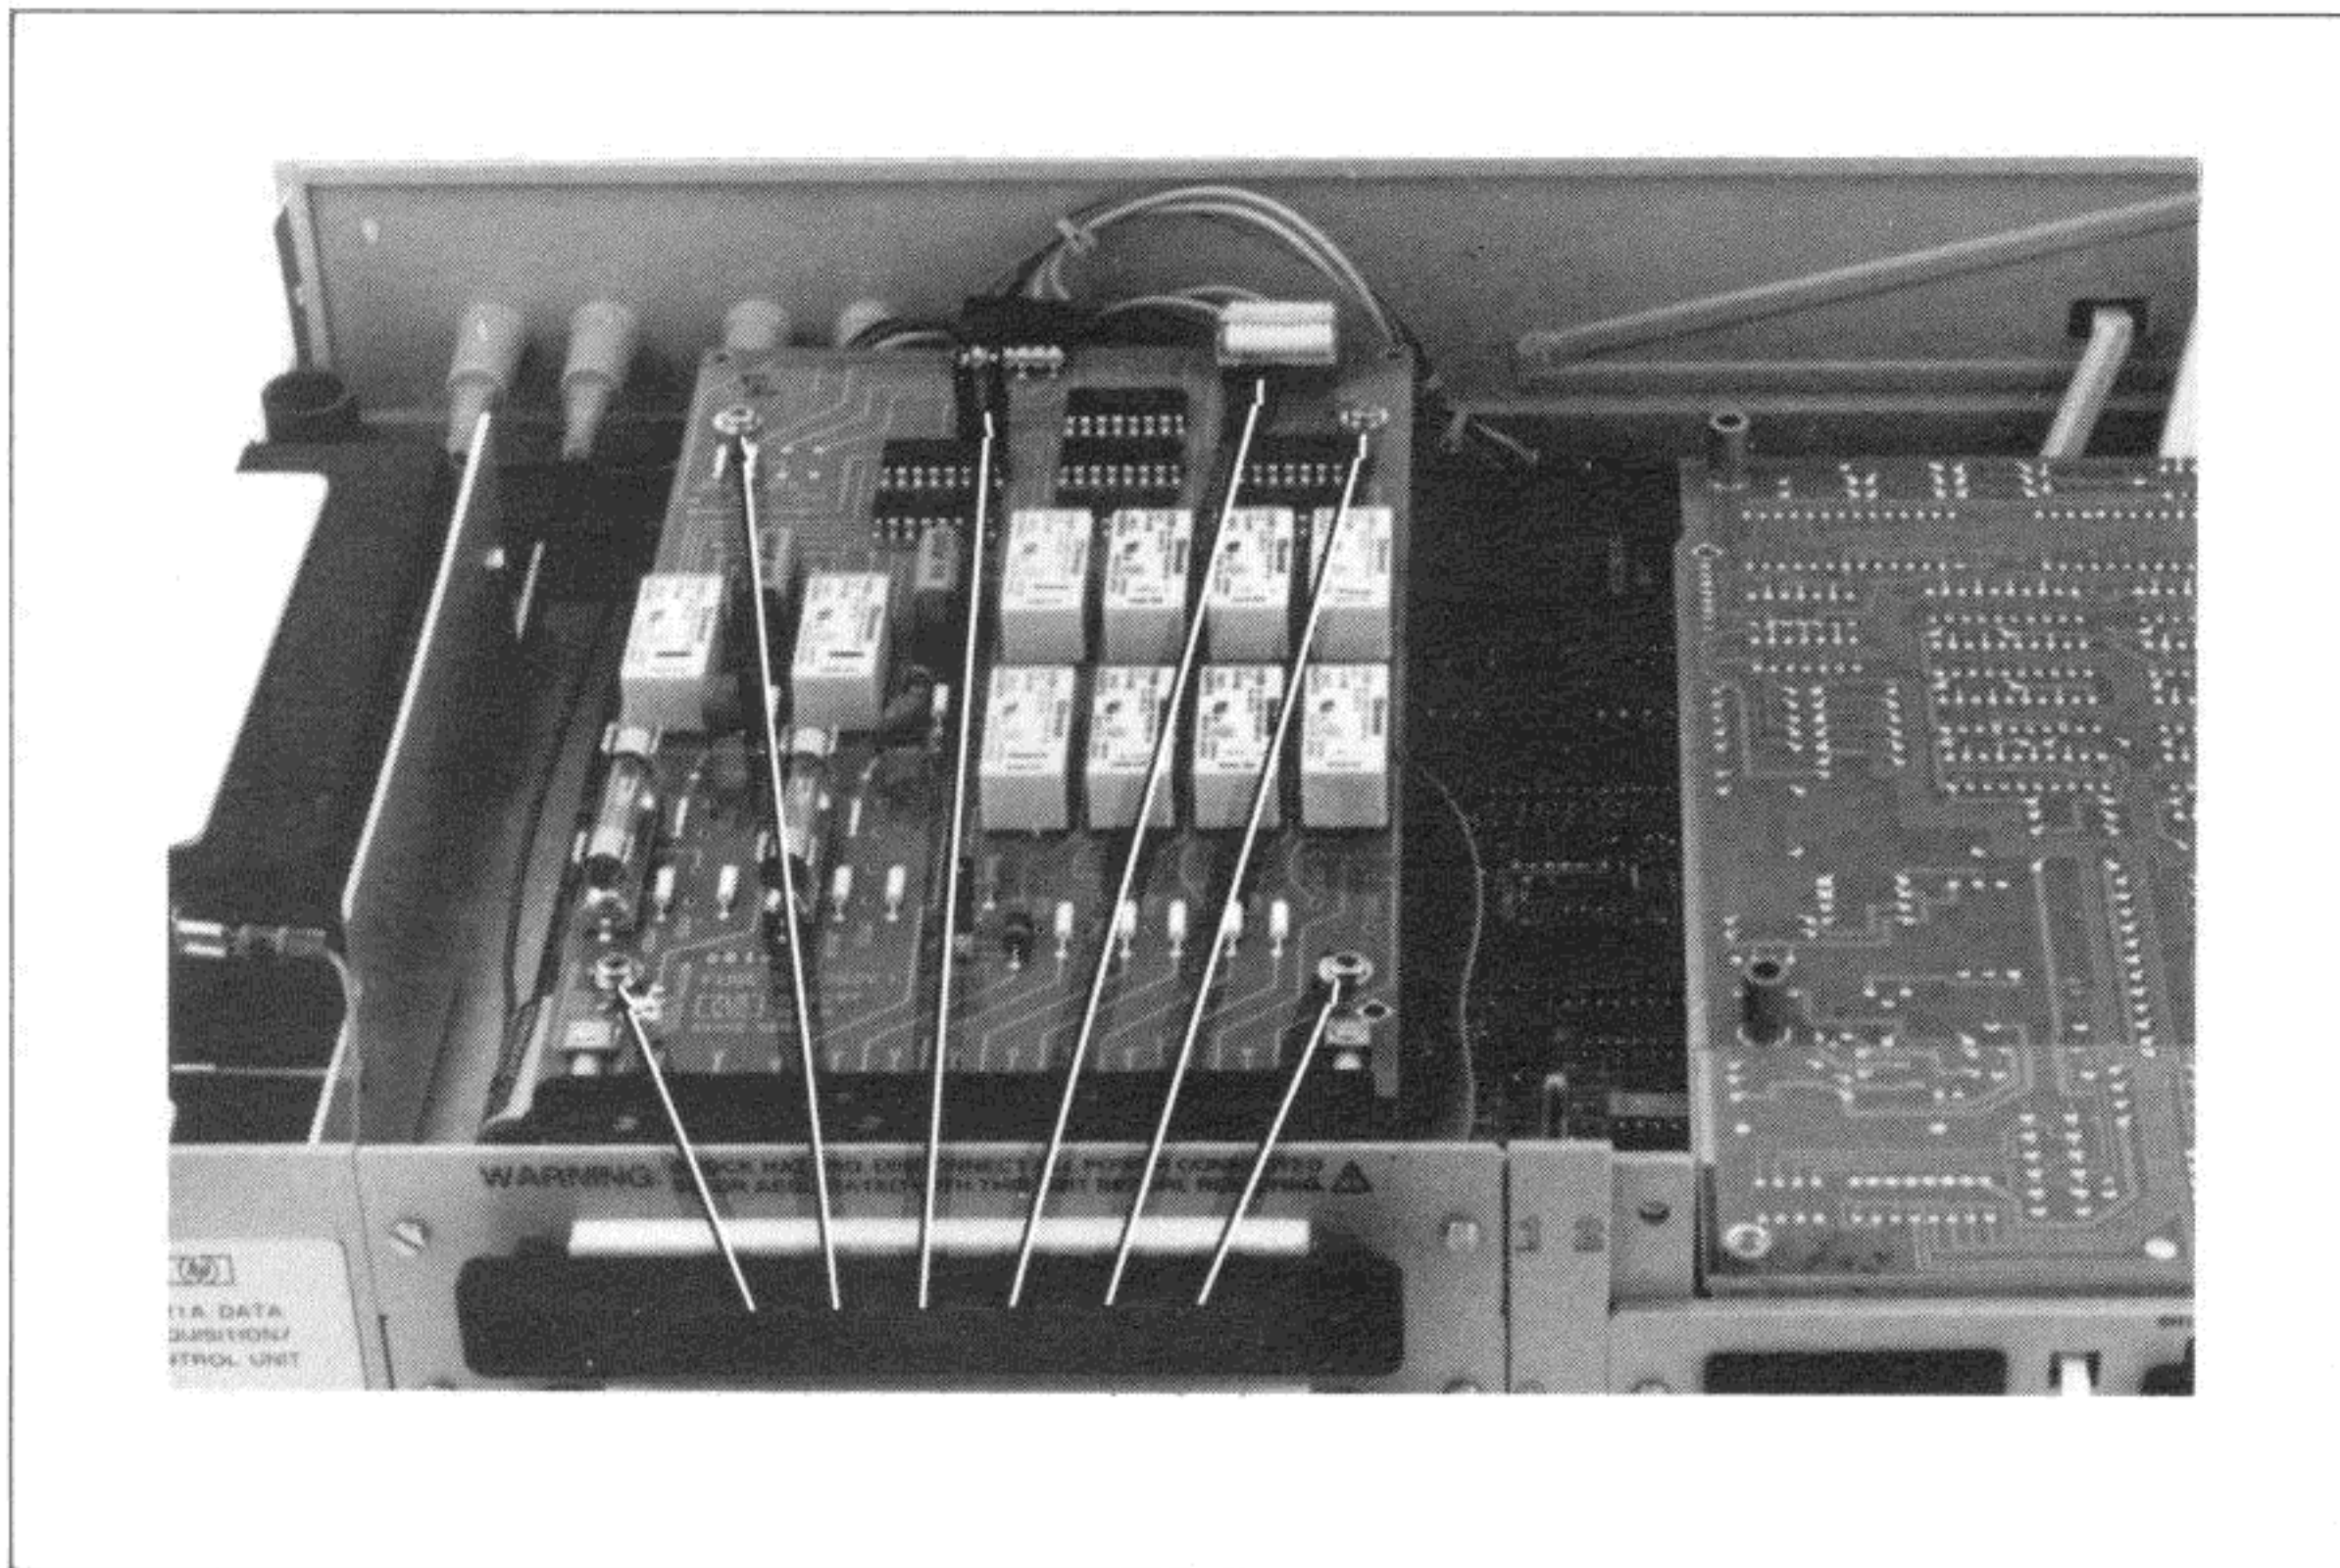

Figure 1-8-7. Unplug Option Cable(s) and Remove Option Screws
f. If an option is installed in slot 1, refer to Figure 1-8-7. Unplug the ribbon cable connector from the option in slot 1. Lift the connector straight up to avoid bending any pins. If the option is a Multiplexer Assembly, also unplug the 4-wire VM input cable. If the option is a Digital I/O or Breadboard Assembly, it will not have the 4-wire VM input cable.
i. Refer to Figure 1-8-7 to unplug the ribbon cable connector from the option in slot 0. Lift the connector straight up to avoid bending any pins. If the option is a Multiplexer Assembly, also unplug the 4-wire VM input cable. If the option is a Digital I/O or Breadboard Assembly, it will not have the 4-wire VM input cable.
m. Refer to Figure 1-8-7 and unplug the ribbon cable connector from the option in slot 2. Lift the connector straight up to avoid bending any pins. If the option is a Multiplexer Assembly, also unplug the 4-wire VM input cable. If the option is a Digital I/O or Breadboard Assembly, it will not have the 4-wire VM input cable.